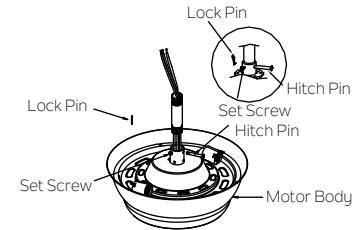

**Fig. 5**
**Step 1.** Before attaching fan to outlet box (not included), ensure the outlet box is securely fastened to at least two points to a structural ceiling member (a loose box will cause the fan to wobble). Pass the 120 volt supply wires from the ceiling outlet box through the center of the ceiling mounting bracket. Install mounting bracket to outlet box in ceiling using the screws and washers included with the outlet box or screws and washers in the hardware bag. (Fig. 5)